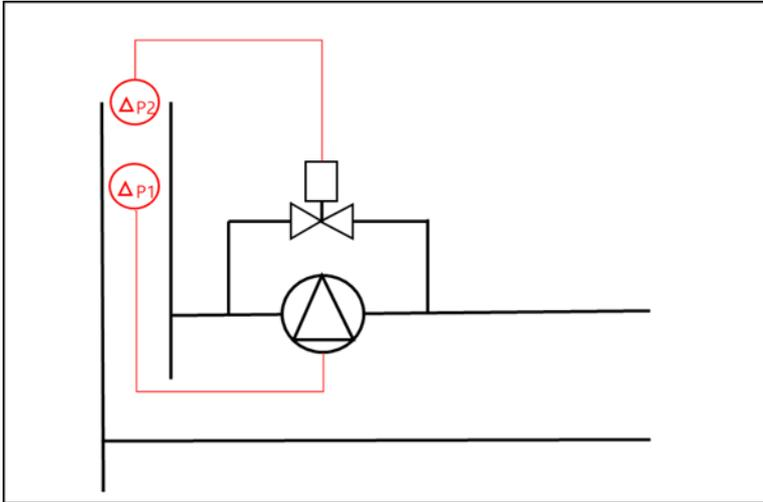

Figure 3: Low Flow Pump Protection Valve
To avoid this condition a “Low Flow Pump Protection Valve” and second ΔP sensor are introduced into the system, as a by-pass across the pump and the control sensor respectively, as shown in Figure 3 below.
- Install a Low Flow Pump Protection valve, which should be a Pressure Independent Control Valve, and a secondary ΔP sensor close to the pump to avoid any water pulses and potential pipe vibration (See Figure 3).